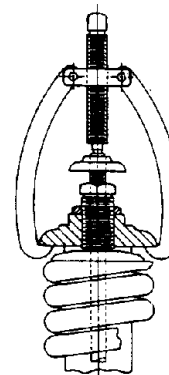

FIGURE 2
2. Center the test gag screw in the exposed end of the spindle and hook the legs of gag under the sides of the yoke as shown in Figure 2.